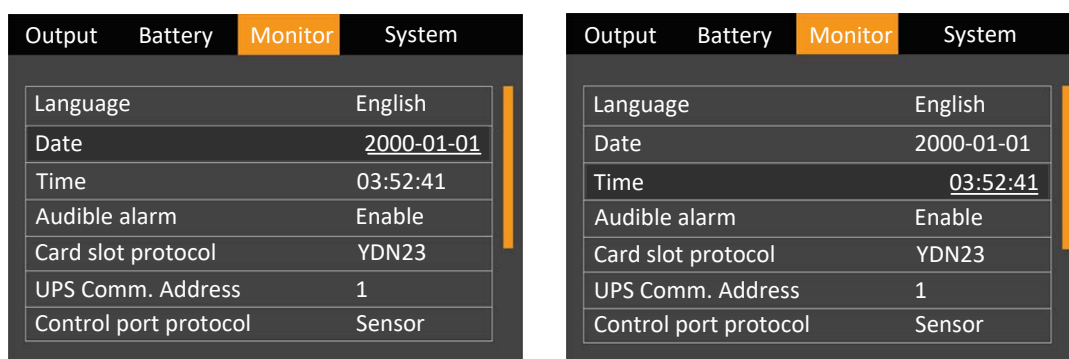

Figure 5-17 Changing date and time
4. Press the  key, move the cursor and press the  or  key to change the date and time you need. See Figure 5-17.